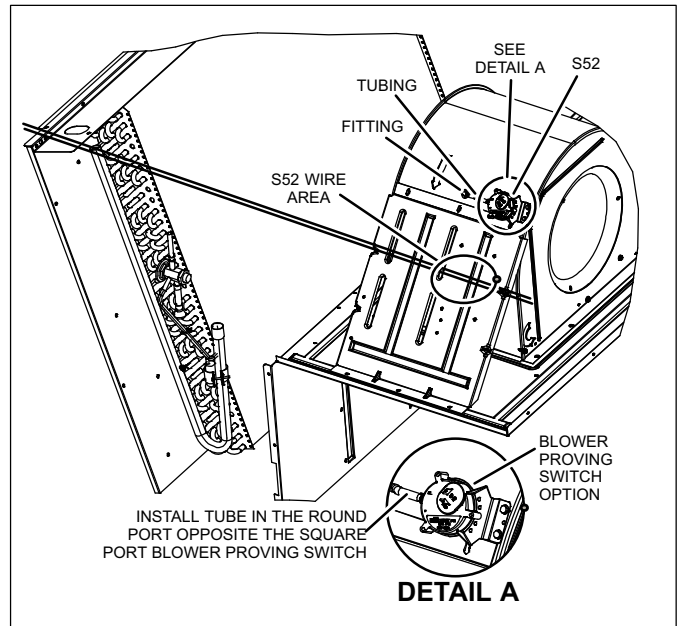

Figure 5. Blower Proving Switch Location
7. Open blower compartment and install blower proving switch on top of blower wrapper with two #8-32 x 1/2 TFS screws (see figure 5).
8. Locate S52 terminals near piping in front of the blower and connect to blower proving switch (see figure 5).
8. Open blower compartment and install blower proving switch on top of blower wrapper with two #8-32 x 1/2 TFS screws (see figure 5).
9. Locate S52 terminals near piping in front of the blower and connect to blower proving switch (see figure 5).